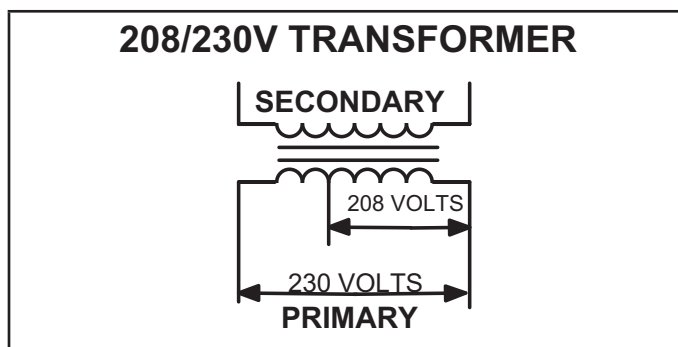

FIGURE 3
All use a single line voltage to 24VAC transformer mounted in the control box. Transformer supplies power to control circuits in the unit. The transformer is rated at 70VA and is protected by a 3.5 amp circuit breaker (CB8) which is located on the transformer itself. The 208/230 (Y) voltage transformers have two primary voltage taps, but only one may be used depending on supply voltage. See figure 3.